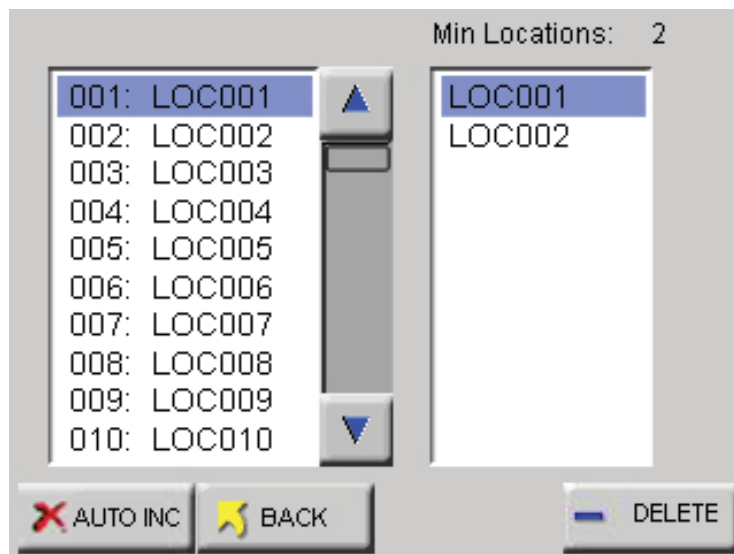

Figure 6-98 Reports Location Screen
- Press the LOC button to select, add or delete locations or enable Auto Inc as shown in Figure 6-98.